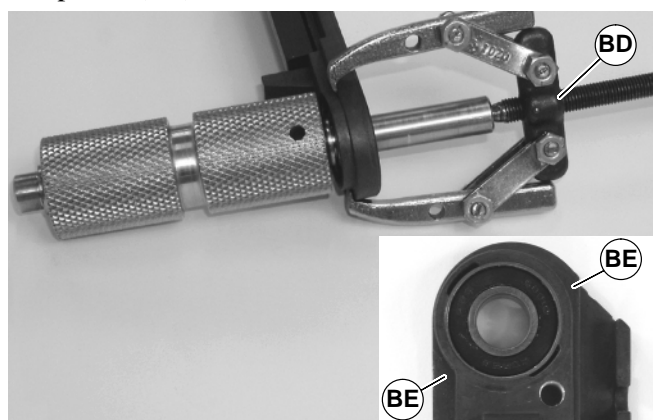

Figure 36
5. With bearing removal tool, (BD of Figure 36), part number 807-1078, remove head plate from drive shaft side of pulley. Connect tool jaws at indicated points (BE).